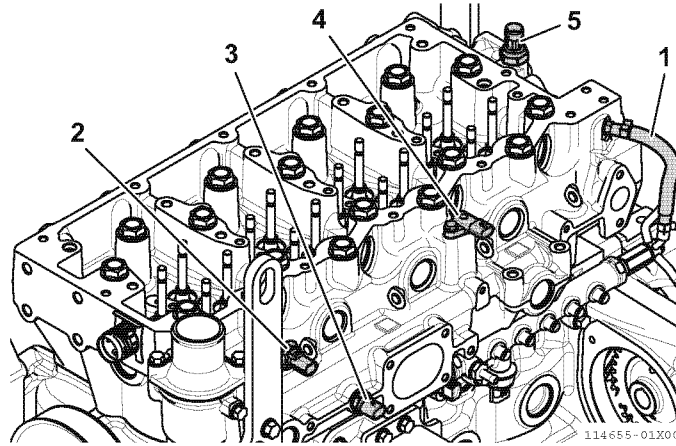

Fig.14-11
7. Attach the fuel return hose (1, Fig.14-11) from the injectors to the rail. Depending on the conditions when the cylinder head was disassembled, attach the coolant temperature sensor (2, Fig.14-11), intake temperature sensor (3, Fig.14-11), intake pressure sensor (4, Fig.14-11), and exhaust pressure sensor (5, Fig.14-11).